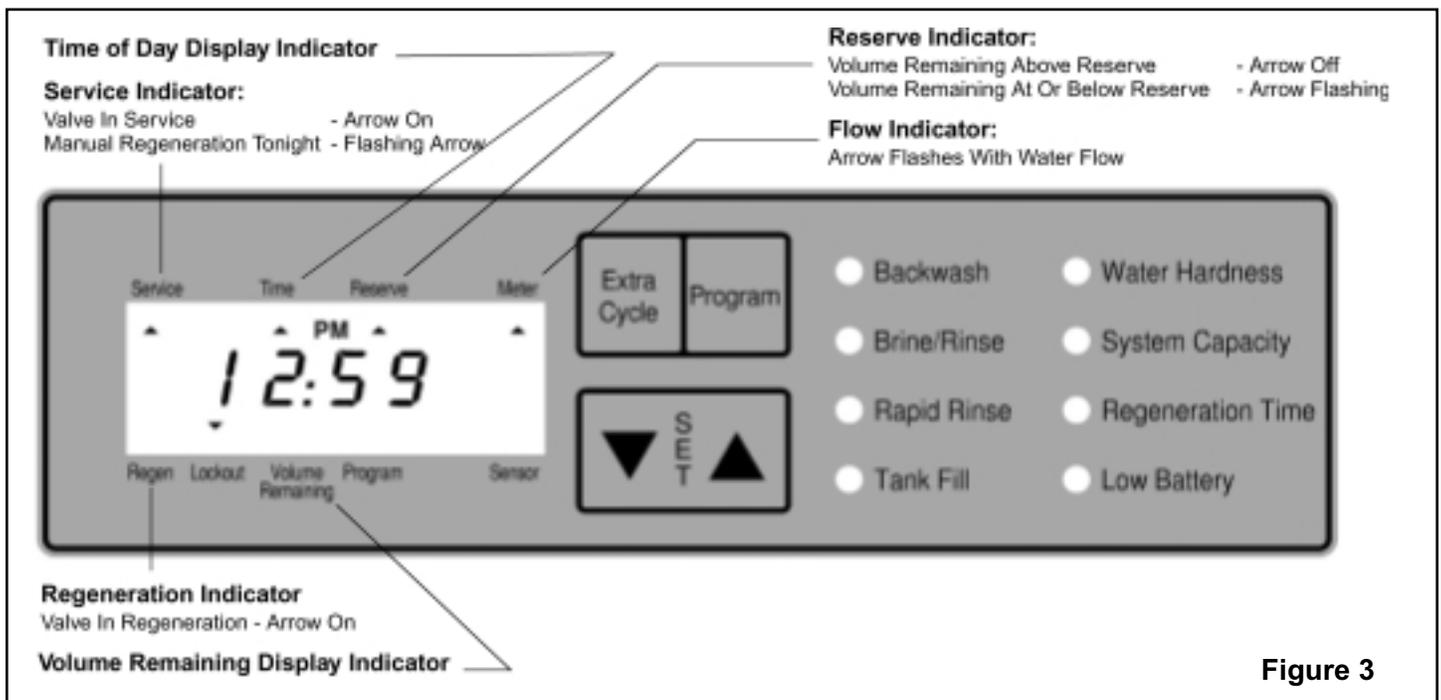

Figure 3
11. Once the valve has reached the SERVICE position, normal operation is resumed. In normal operation the Time of Day and, if flow meter equipped, Volume Remaining displays alternate being viewed. Set the Time of Day display by depressing the Up or Down Set Button to the correct time (see Figure 3). Note: the Time of Day display must be set correctly to either a.m. or p.m.